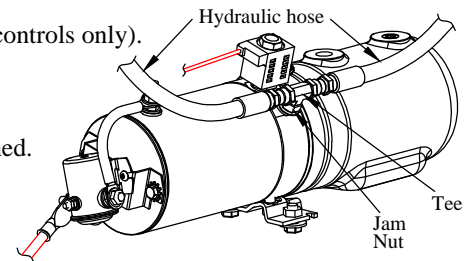

Figure 2: Hydraulic hose and Tee.
- 1. DISCONNECT** the hydraulic hose from the tee on the power unit housing (Figure 2).